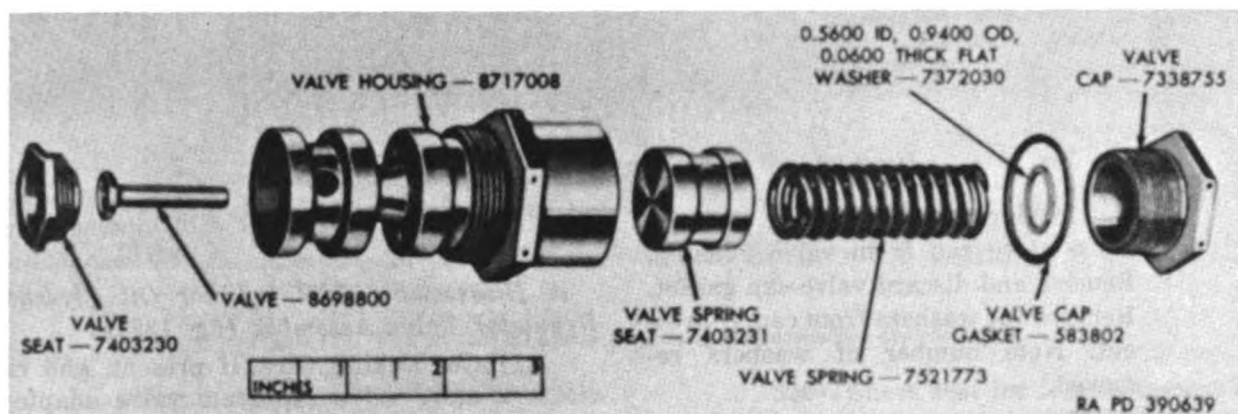
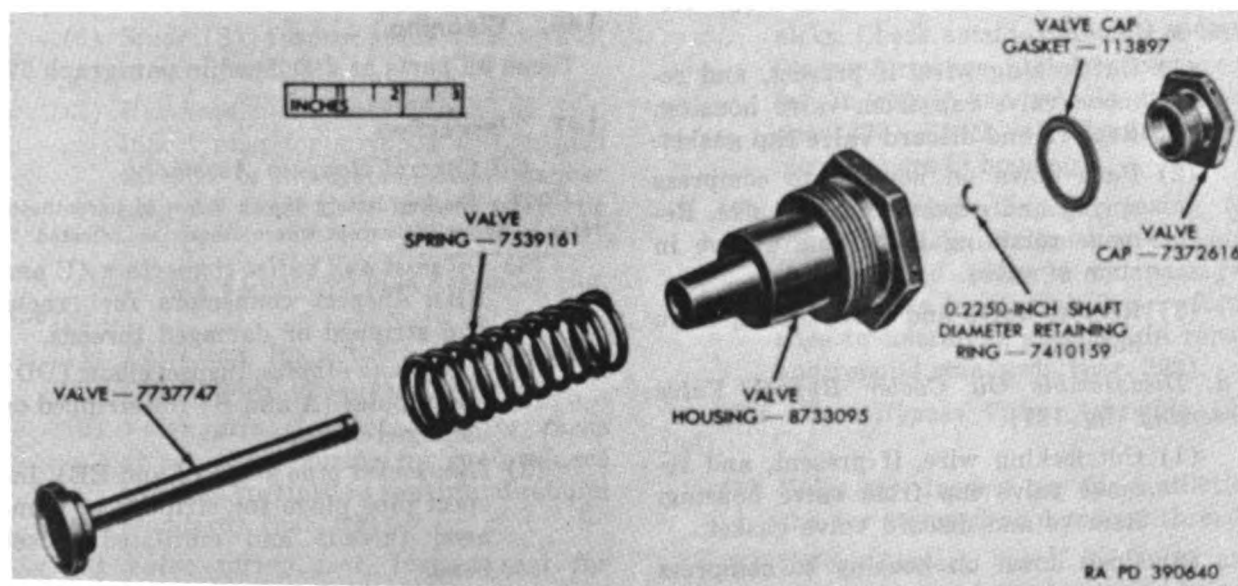
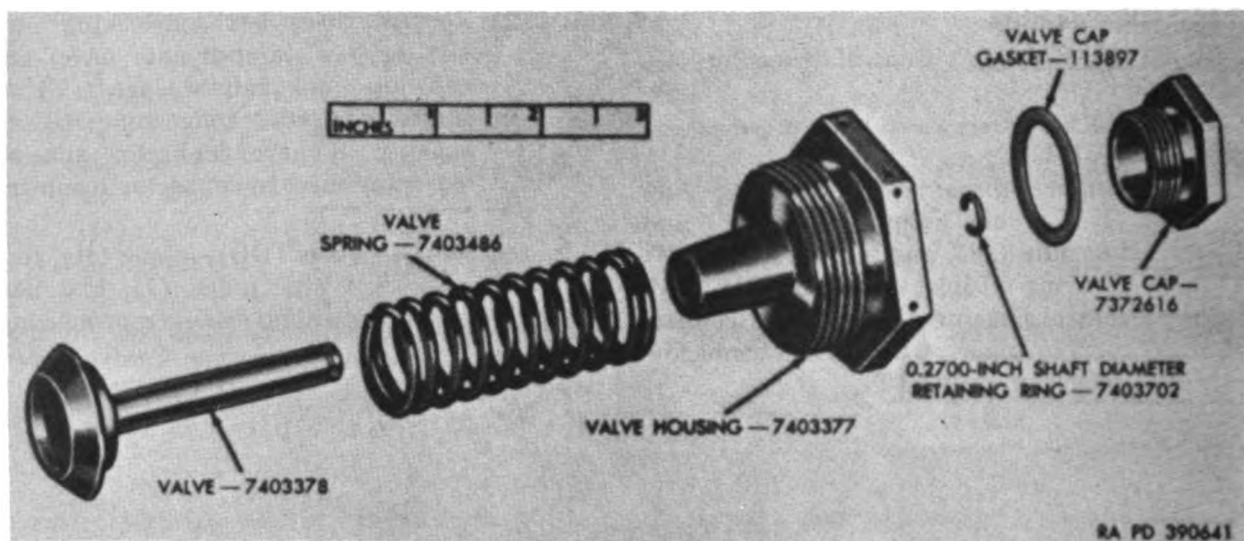
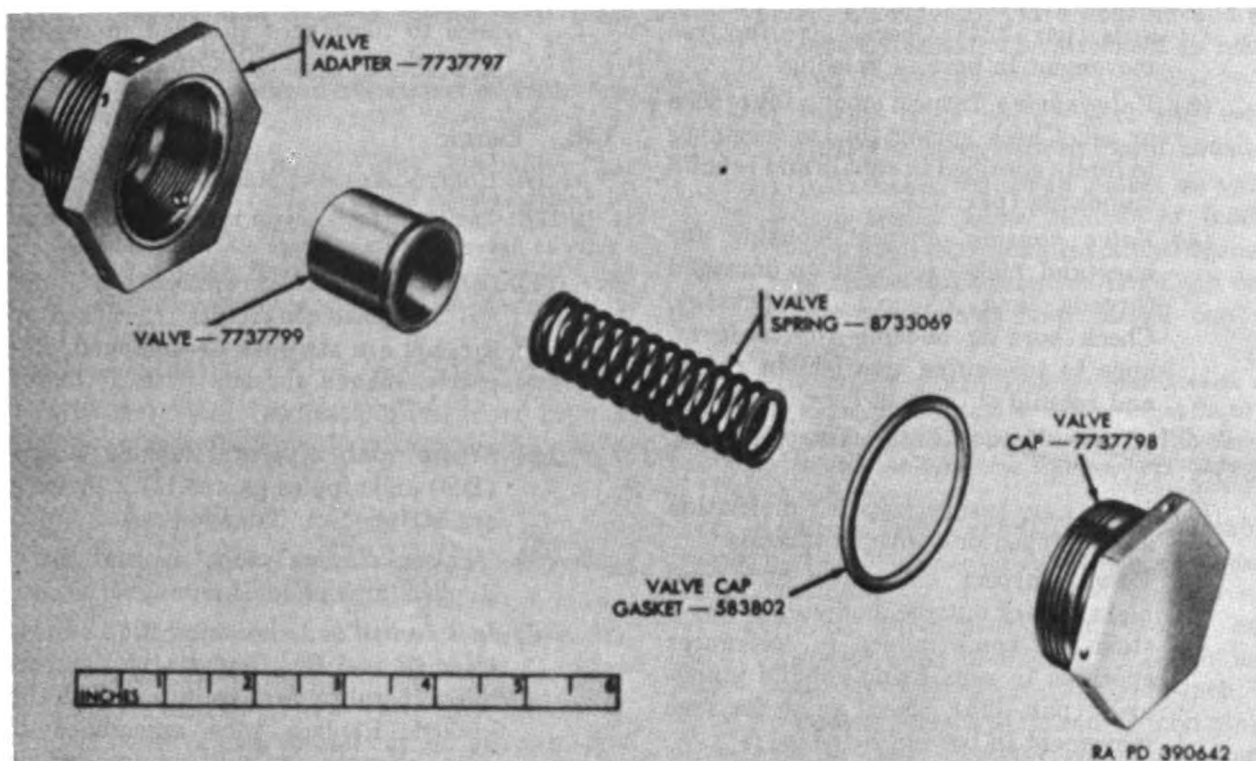

Figure 135. Oil pressure control valve assembly—exploded view.
Figure 136. Oil filter bypass valve assembly—exploded view.
Figure 137. Oil cooler bypass valve assembly—exploded view.
Figure 138. Fuel injector oil pressure regulator valve assembly—exploded view.
- (1) Remove three hex self-locking nuts (W), or hex stamped nuts (X) and hex nuts (W), and plain washers (V) securing oil inlet connector (U) to oil control housing (K). Remove connector and remove and discard connector mounting gasket (T).
- (2) Remove three hex self-locking nuts (Z), or hex stamped nuts (AA) and hex nuts, and plain washers (Y) securing oil outlet connector (BB) to housing. Remove connector and remove and discard connector mounting gasket (CC).
- (3) Remove elbow (DD), nipple (H), four hex-socket pipe plugs (J), and hex-socket pipe plug (EE) from housing.
b. Disassemble Oil Pressure Control Valve Assembly (fig. 135).
- (1) Cut locking wire, if present, and remove valve cap from valve housing. Remove and discard valve cap gasket. Remove flat washers from cap, if present. Note number of washers removed.
- (2) Remove valve spring, valve spring seat, valve seat, and valve from housing.
c. Disassemble Oil Filter Bypass Valve Assembly (fig. 136).
- (1) Cut locking wire, if present, and remove valve cap from valve housing. Remove and discard valve cap gasket.
- (2) Push down on housing to compress spring and expose stem of valve. Remove retaining ring from groove in stem of valve.
- (3) Remove valve and valve spring from housing.
d. Disassemble Oil Cooler Bypass Valve Assembly (fig. 137).
- (1) Cut locking wire, if present, and remove valve cap from valve housing. Remove and discard valve gasket.
e. Disassemble Fuel Injector Oil Pressure Regulator Valve Assembly (fig. 138).
- (1) Cut locking wire, if present, and remove valve cap from valve adapter. Remove and discard valve cap gasket.
- (2) Remove valve spring and valve from adapter.
b. Oil Pressure Control Valve Assembly (fig. 135).
- (1) *Valve cap*. Inspect cap for mutilation and stripped or damaged threads.
- (2) *Valve spring*. Inspect spring for cracks or set. Check spring for conformance to limits specified in repair and rebuild standards (par. 323).
- (3) *Valve spring seat*. Inspect seat for burs and nicks. Check seat for conformance to tolerances specified in repair and rebuild standards (par.
- (4) *Valve seat*. Inspect seat for mutilation and stripped or damaged threads.
- (5) *Valve*. Inspect valve for burs and nicks. Check outside diameter of stem for conformance to tolerances specified in repair and rebuild standards (par. 323). Check valve for free movement in bore in housing.
- (6) *Valve housing*. Inspect housing for burs and nicks, stripped or damaged threads, and plugged oil passages. Check bores in housing for conformance to tolerances specified in repair and rebuild standards (par. 323).
c. Oil Filter Bypass Valve Assembly (fig. 136).
- (1) *Valve cap*. Inspect cap for mutilation and for stripped or damaged threads.
- (2) *Valve*. Inspect valve for burs and nicks. Check outside diameter of valve stem for conformance to tolerances specified in repair and rebuild stand-
- (3) *Valve spring*. Inspect spring for cracks or set. Check spring for conformance to limits specified in repair and rebuild standards (par. 324).
- (4) *Valve housing*. Inspect housing for burs and nicks, stripped or damaged threads, and plugged oil passage. Check bore in housing for conformance to tolerances specified in repair and rebuild standards (par. 324).
d. Oil Cooler Bypass Valve Assembly (fig. 137).
- (2) *Valve*. Inspect valve for burs and nicks. Check outside diameter of valve stem for conformance to tolerances specified in repair and rebuild standards (par. 325). Check valve for free movement in bore in housing.
- (3) *Valve spring*. Inspect spring for cracks or set. Check spring for conformance to limits specified in repair and rebuild standards (par. 325).